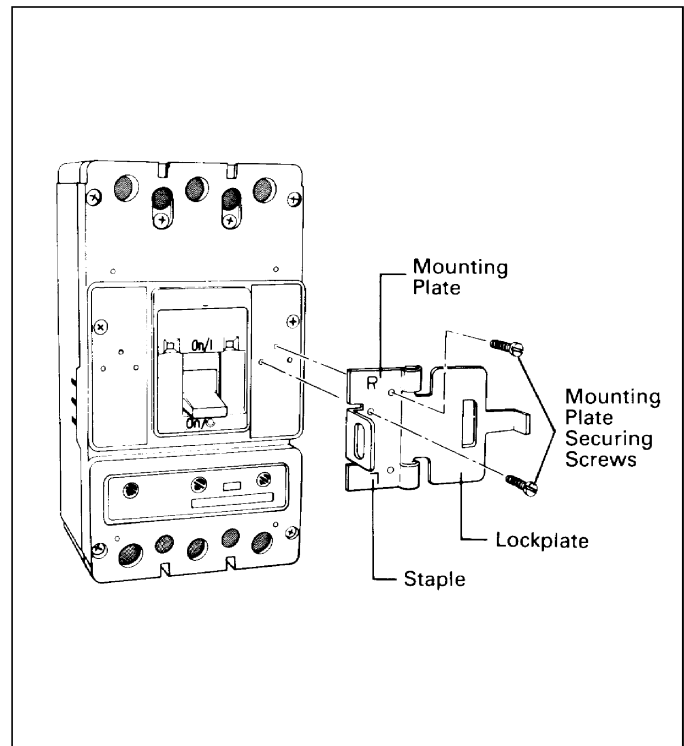

Fig. 2-2 Padlockable Handle Lock Hasp Installation (K-Frame Shown)
- 2-3. For mounting over the right pole, letter R on mounting plate must be toward the line end of the circuit breaker (Fig. 2-2.) For mounting over the left pole, letter L must be toward the line end of the circuit breaker.
- 2-4. Position mounting plate on cover. Align mounting holes. (See Fig. 2-2.)